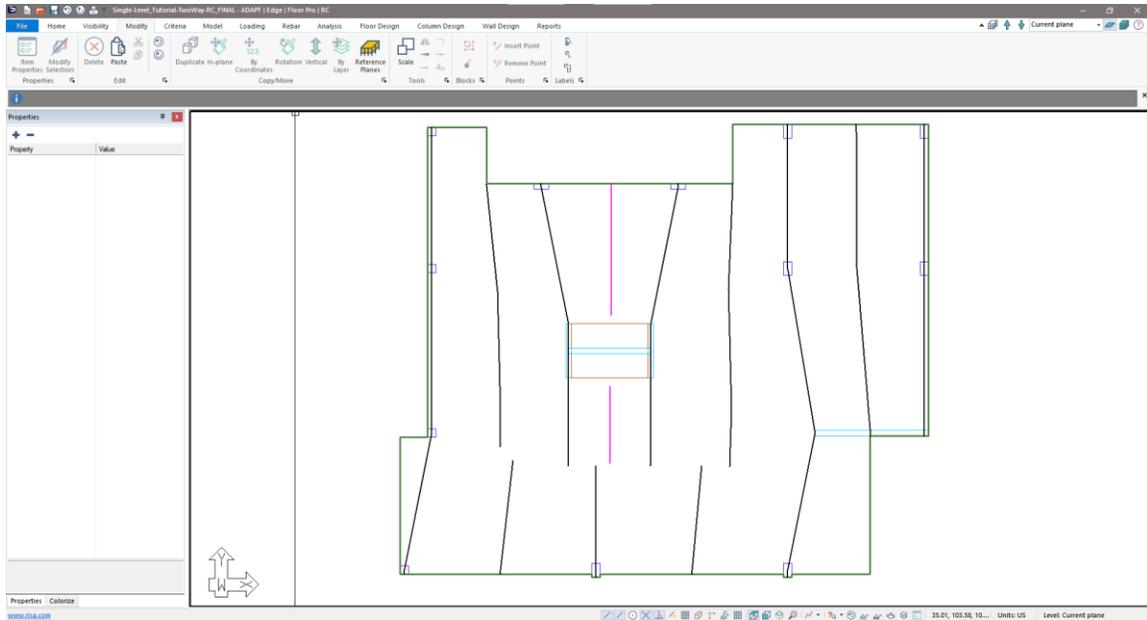

Figure 6-35
- Left-click on the first two points at the south end of the support line to delete them. The user's screen should now appear similar to **FIGURE 6-35**.